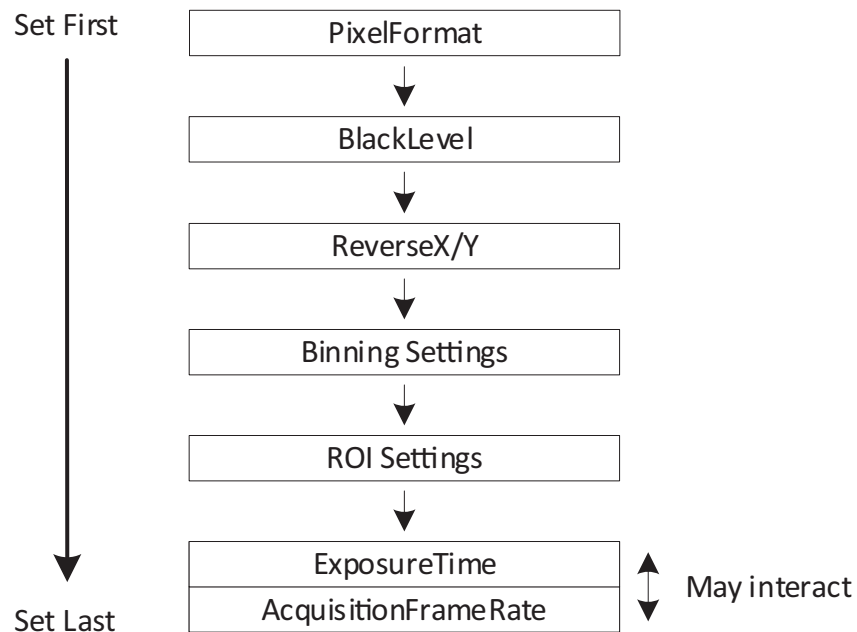

Figure 114: Interdependencies between controls
The conversion between time and clock cycles affects control values. Controls for pixel format, bandwidth, ROI, and exposure time are related to each other. Changing values for one control can change values for another control. For example, frame rates can be reduced when **MIPI Data Format** is changed subsequently. Figure 114 shows the interdependencies.
- To avoid readjustments, apply settings in the order shown in Figure 114.